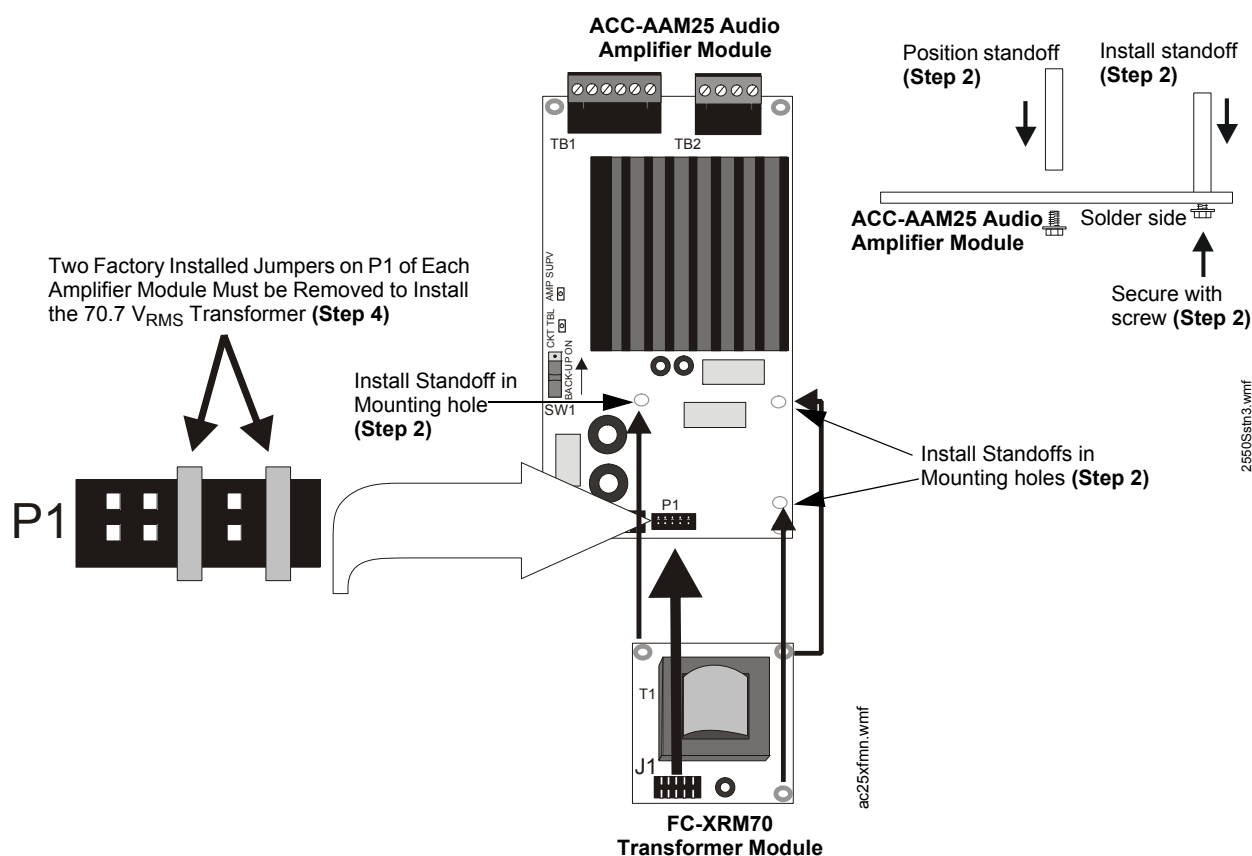

Figure 3.17 70.7 V_{RMS} Transformer Module Installation
- (1) Position switch S1 in the DOWN position for primary operation which adds the new amplifier's 25 watts to total system power (50 watts total).
- (2) Position switch S1 in the UP 'Backup On' position to configure the amplifier as a backup in the event the primary amplifier fails. **IMPORTANT!** ACC-25/50DAZS ONLY - Set SW1 on the ACC-ZSM to AAM1 for backup configuration.
7. Check to make certain the factory installed jumpers are in place on P1 of the Audio Amplifier Module(s). Do not remove unless installing the FC-XRM70 Transformer Module. See Figure 3.17 on page 48.
2. Install the three standoffs supplied with the FC-XRM70 Module by inserting each supplied screw into the three holes on the solder side of the ACC-AAM25 Audio Amplifier Module(s). Secure each standoff in place with the screws. Refer to Figure 3.17 for the location of the mounting holes.
4. Remove the two factory installed jumpers from connector P1 of the Audio Amplifier Module(s). Refer to the illustration in Figure 3.17.